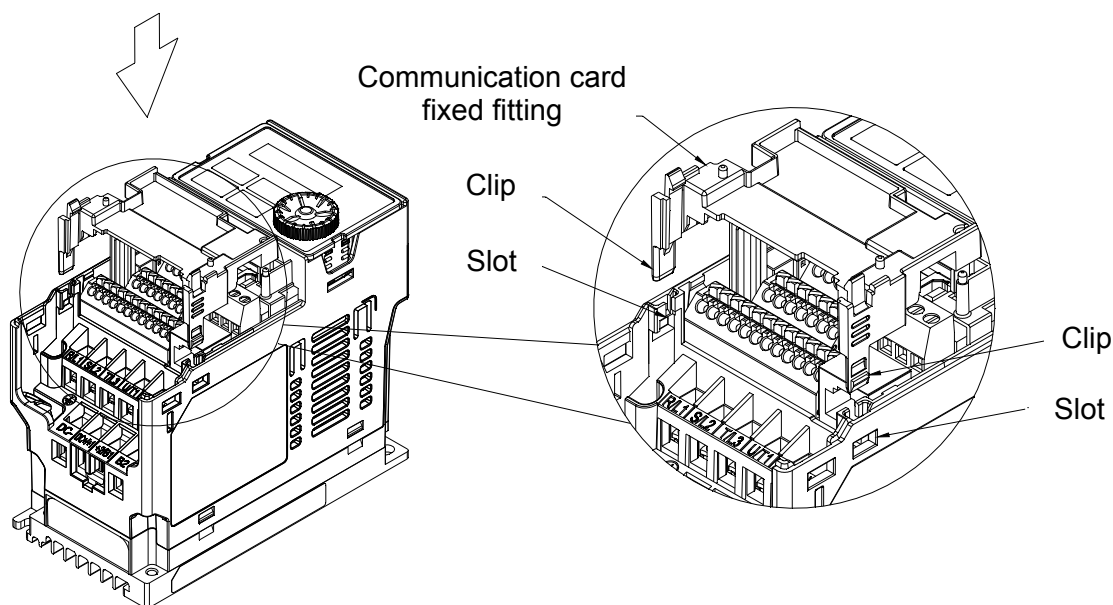

Fig. 8-1
3. As shown in Fig. 8-1, aim the two clips at the communication card fixed fitting. Press the fixed fitting to clip the slot.